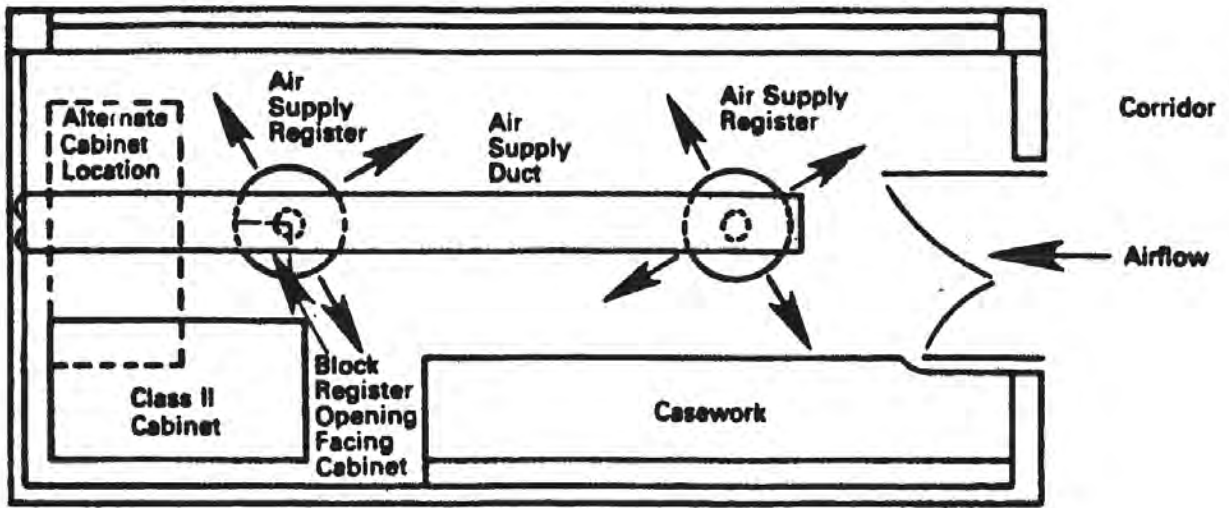

Figure E1 – Suggested laboratory location for Class II (laminar flow) biosafety cabinet
E.1.1.1 The Class II (laminar flow) biosafety cabinet should be located out of the traffic pattern and away from room air currents that could disrupt the containment provided by the work access opening air barrier. Annex E, figure E1 shows a suggested location after all air turbulence sources have been considered.